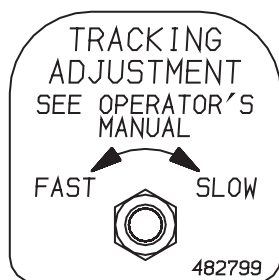

Figure 9. Neutral Adjustment
4. Starting on the left side of the machine, using the adjustment wrench located on the left side of the machine. Rotate the tracking adjustment nut counter clockwise just until the LH wheel starts to creep forward. Make a note of the position of the adjustment nut. (See Figure 9, Page 13).